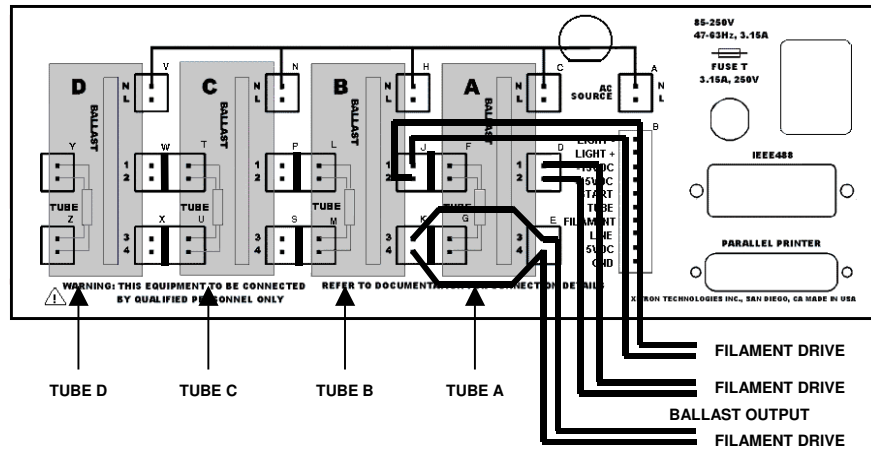

Figure 10. Example of Parallel Filament Outputs from a Ballast
- Wire the filament output from the ballast to two (or more) sections of the 2574R connections in parallel as shown in Figure 10.